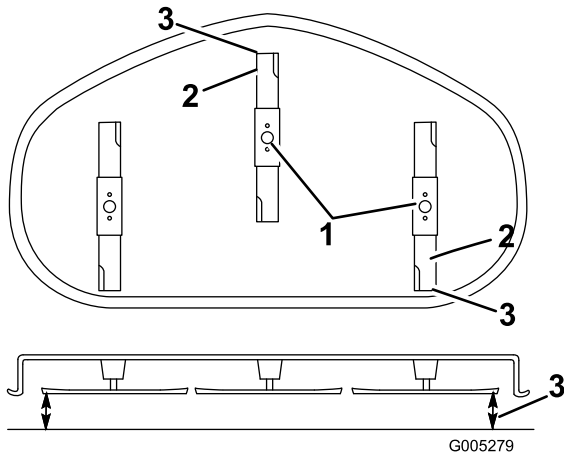

Figure 43
5. Set the height-of-cut at position **3** [3 inch (76 mm)] and carefully rotate the blades so they are facing front to rear (Figure 43).
- Measure from the tip of the front blade to the flat surface and the tip of the rear blade to the flat surface (Figure 43). If the front blade tip is not 1/16-5/16 inch (1.6-7.9 mm) lower than the rear blade tip, adjust the front locknut.
is 1/16-5/16 inch (1.6-7.9 mm) lower than the rear blade tip (Figure 43).